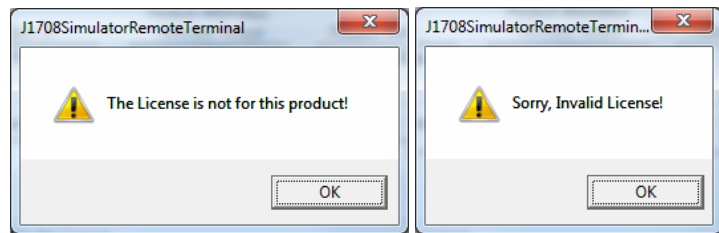

Figure 6-11
5. Each Au J1708/J1587 Simulator will have a unique Serial Number and may have a different Product ID (J1708/J1587 Simulator Edition). If the license code is invalid, an error message will pop up, as shown in Figure 6-11